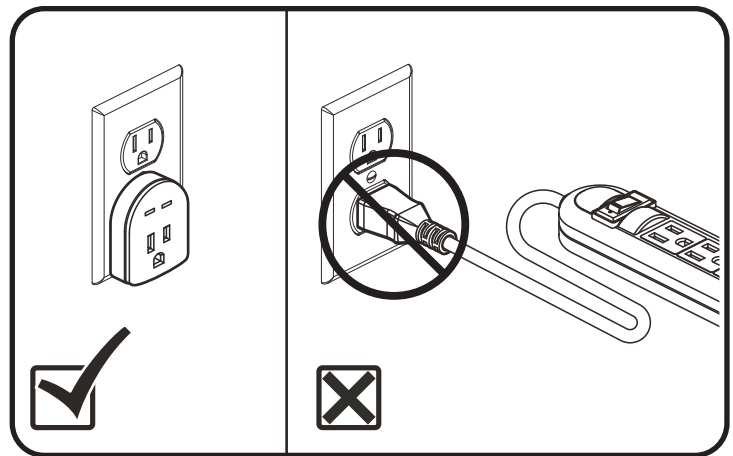

Figure 4.3 Surge Protector
7. Plug the power cord directly into the electrical outlet. **Do not use an extension cord! See fig 4.3.**
- Plug the power cord directly into the electrical outlet. **Do not use an extension cord!** See fig. 4.3.